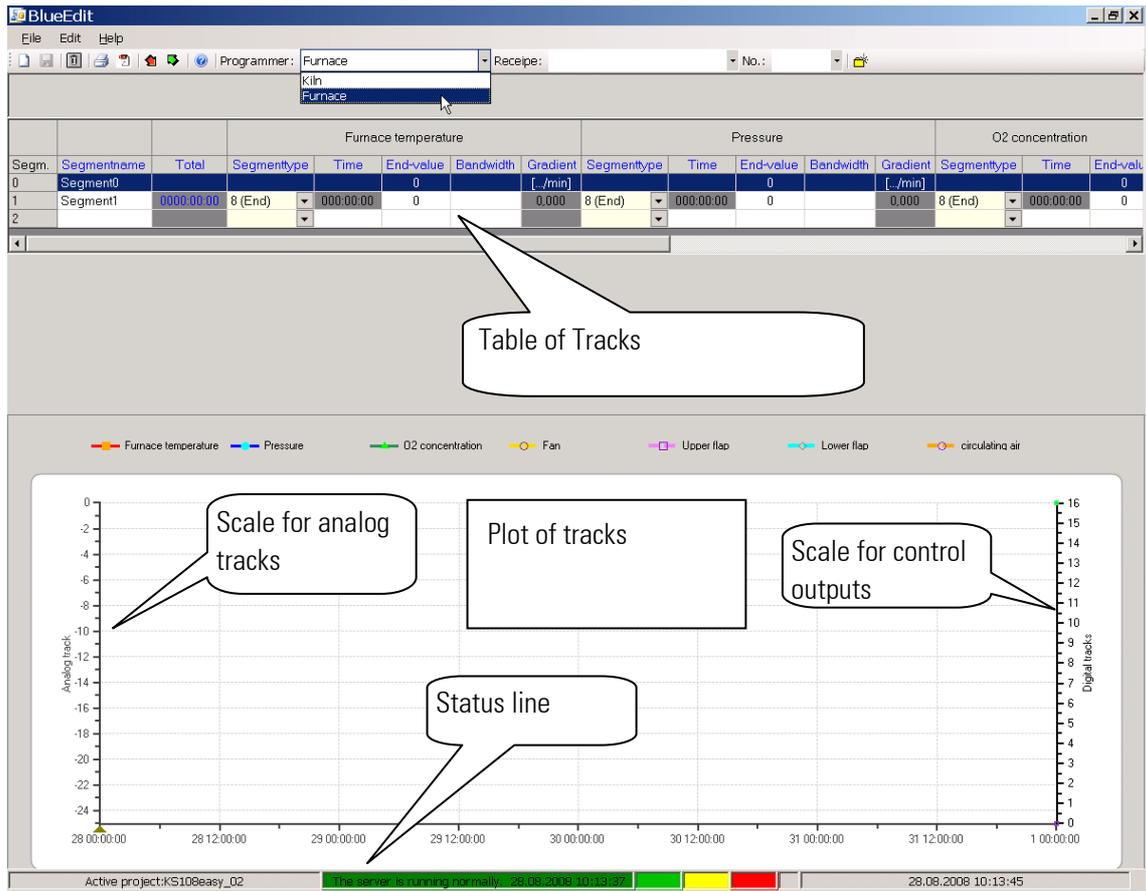

Fig. 29: Start screen and programmer selection
The program editor is found in the start menu under <Start><Software><PMA Tools><BlueEdit><BlueEdit>. A start screen is displayed (Fig. 29: Start screen and programmer selection).
2. Open a new table either via `<File><New>` or via the button (Fig. 29: Start screen and programmer selection).